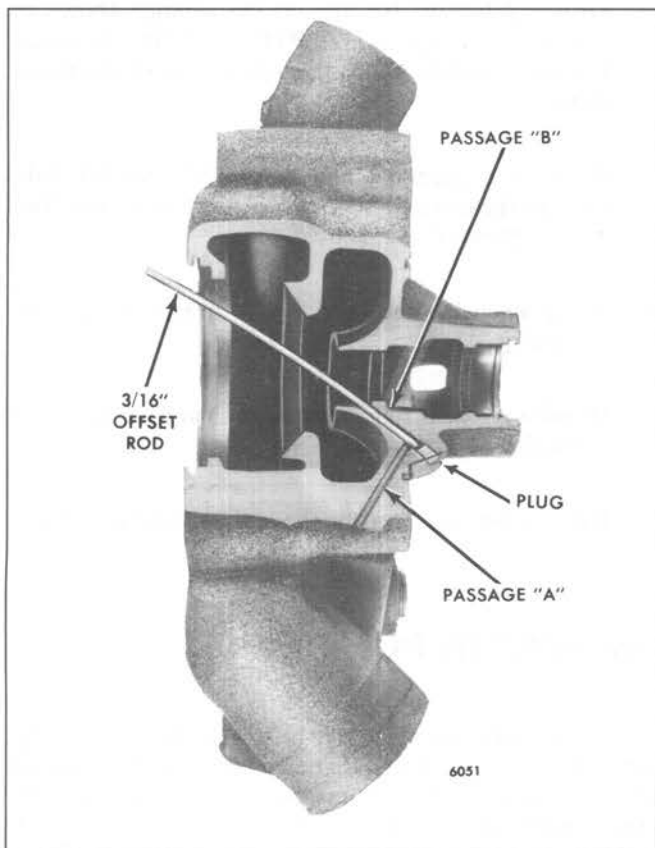

Fig. 2 - Water Pump Housing before Modification
2. With a 3/16" (.1875") offset rod, drive the plug out of passage B (Fig. 2).